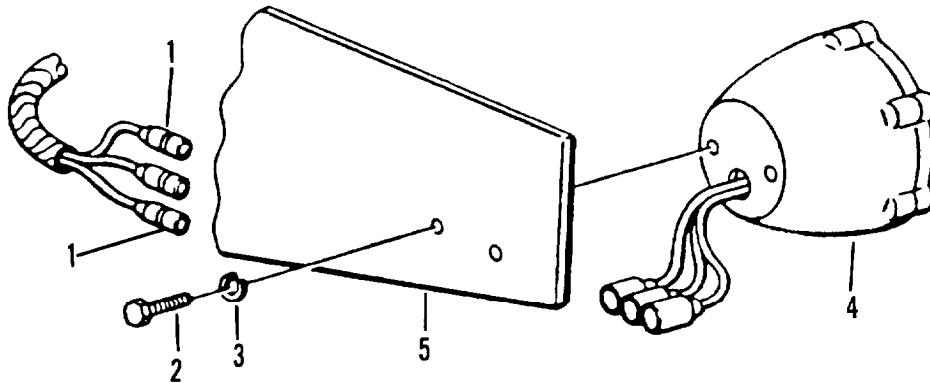

Figure 4-5. 24 volt composite light assembly
- (1) Pull connectors (1, figure 4-5) apart.
- (2) Remove two screws (2) and lockwashers (3) that hold 24 volt composite light assembly (4) to bracket (5).
- (3) Remove 24 volt composite light assembly (4).
- (1) Install 24 volt composite light assembly (4, figure 4-5) on bracket (5) and secure with two lockwashers (3) and screws (2).
- (2) Connect cable connectors (1).